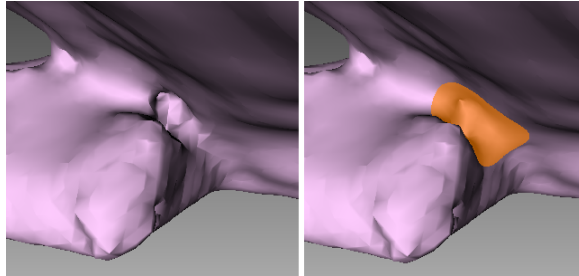

Figure 167: Before smoothing (left) and smoothing out a poorly captured area (right).
6. Hold **LMB** and paint the surface region in order to smooth it. The tool will smooth the affected areas (see Figure 167, right).